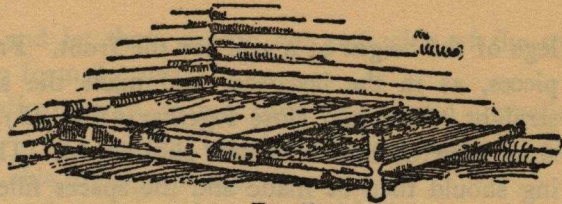

FIG. 41.
**BUNK.**—Place a number of small, even, and straight poles, about two inches in diameter, on two cross beams, one beam at each end of the poles. (Fig. 41). These are placed with the head a little higher than the foot. The poles, which are laid close together, are then covered with boughs of evergreen to a depth of eight or ten inches. These boughs should be small and pulled off the limb, not cut with the knife, as the cutting process leaves the sharp ends to stick into you. The bunk should be built at least a foot above the ground to give a free circulation of air.
The bunk may be constructed as described in Figure 41, or the bearing poles may be made of logs split into slabs and laid in the same manner as a floor. On top of this the boughs or sprigs need to be placed to at least a depth of ten inches. When the door is hung, the roof made tight, and the bunk comfortable, this will be found one of the most desirable camps that can be constructed.